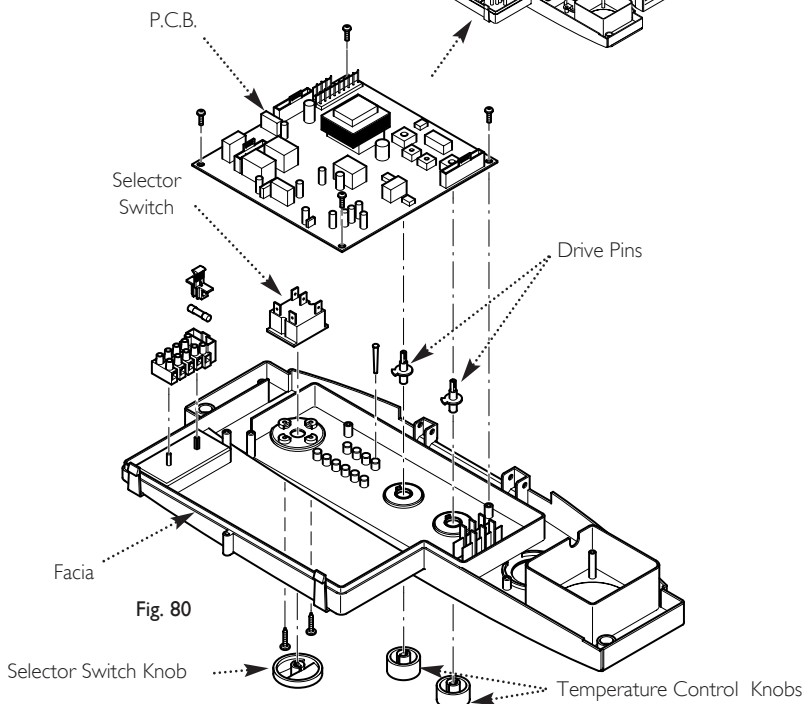

Fig. 80
14.18 P.C.B. (Fig. 80)
14.19 Selector Switch (Fig. 80)